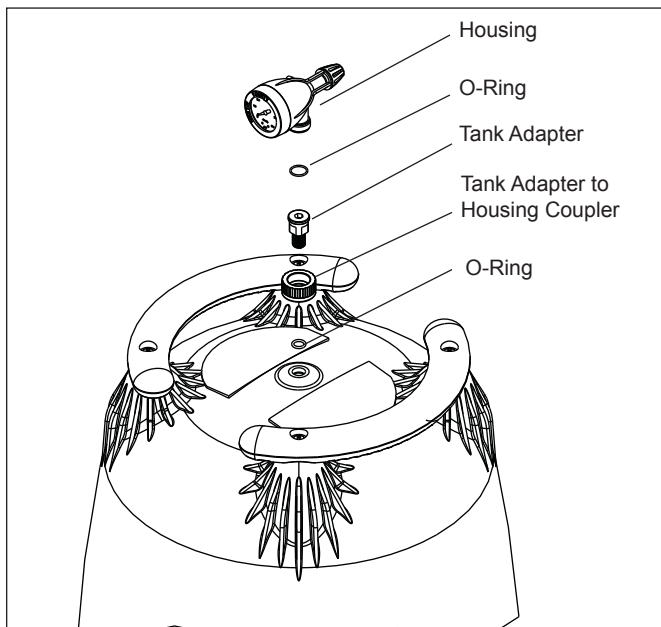

Figure 5. Pressure Gauge/Air Release Assembly
- a. Place the smaller, thicker o-ring onto the threads of the tank adapter (see Fig. 5). Slide the tank adapter through the coupling nut and into the filter tank. Use the flats on the tank adapter to tighten. Do not overtighten.
9. Support the inlet/outlet pipes independently to prevent any undue strains on the filter's two (2) or three (3) port diverter valve.